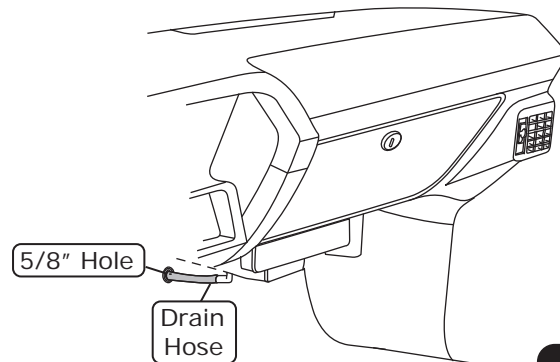

Figure 2
3. Install the drain hose to the outlet on the bottom of the evaporator module, and route it through the firewall (See Figure 2, below).